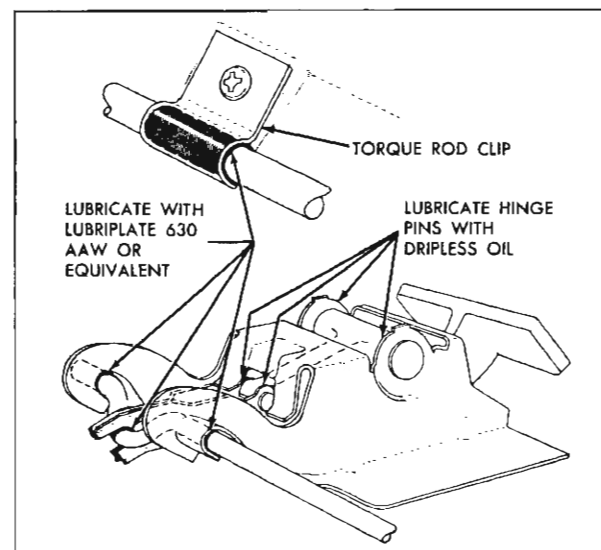

Fig. 14-13 Back Door Hinge and Torque Rod Lubrication
1. Lubricate both right and left hinge pivot pins with an approved dripless oil (Fig. 14-13).
NOTE: When installing hinge torque rod make certain torque rod is properly engaged with hinge (Fig. 14-13) and align torque rod retainer with previously made marks.
4. After installation of torque rods, lubricate torque rod frictional surfaces on both right and left hinges and frictional surfaces of both torque rod clips with "Lubriplate" No. 630AAW or equivalent (Fig. 14-13).
4. Using a suitable length of pipe over end of torque rod, remove tension of torque rod from retainer. While tension of torque rod is removed from retainer, loosen retainer attaching bolts (Fig. 14-13), adjust retainer forward or rearward, as required; then, tighten retainer attaching bolts.
5. Lubricate both right and left hinge pivot pins with an approved dripless oil (Fig. 14-13). Lubricate torque rod frictional surfaces on both hinges and frictional surfaces of both torque rod clips with "Lubriplate" No. 630AAW or equivalent (Fig. 14-13).